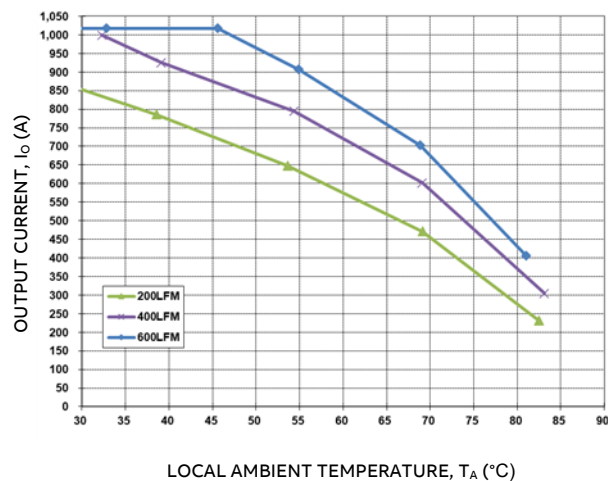

Figure 15. Output Current Derating for the Base Plate QBDS095A10R6-H; Airflow Direction for Vout to Vin(Worst) orientation; Vin = 50V.
Increased airflow over the module enhances the heat transfer via convection. The thermal derating of figure 15–18 shows the maximum output current that can be delivered by each module in the indicated orientation without exceeding the maximum TH1 temperature versus local ambient temperature (TA) for several air flow conditions.